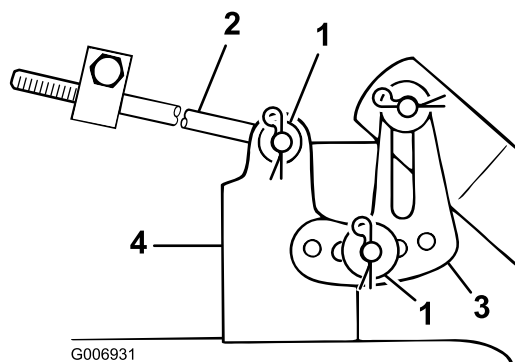

Figure 48
7. Remove the hairpin cotter and washer from the leveling bracket (Figure 48).
8. Position the leveling bracket in a different hole and install the washer and hairpin cotter (Figure 48).